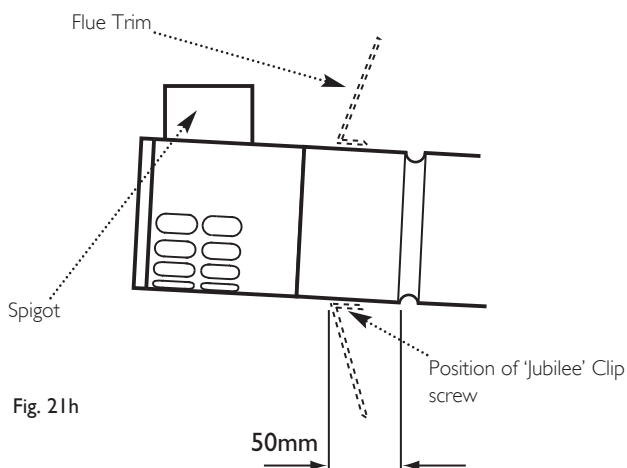

Fig. 21h
- If required, the flexible flue trim should be fitted prior to this as it cannot be fitted after. Use the large 'Jubilee' clip to secure the trim to the flue (See Fig. 21h, trim shown dotted), with the screw part of the clip at the bottom.